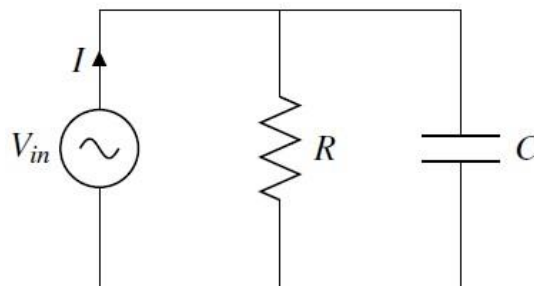

Figure 5.3: Parallel RC Circuit
- Construct the circuit of Figure 5.3 on PSpice. Use Sine Source (VSIN) as input with 3V amplitude [Keep AC = 0].